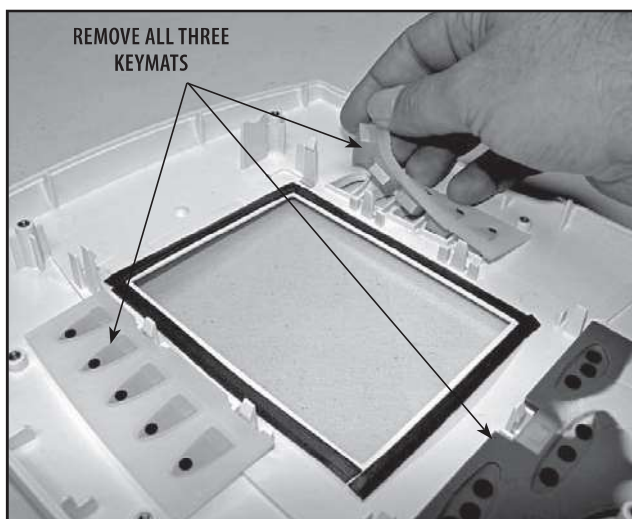

FIGURE 6.30
6. Remove Keymats from the System Top. **See Figure 6.30.**